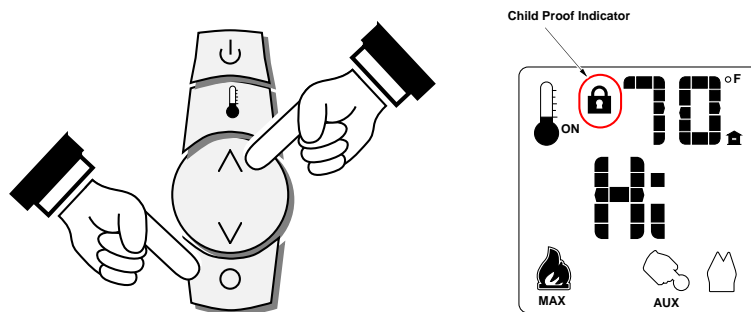

Figure 14
- Press both the MODE and UP buttons simultaneously to turn this feature on and off (see **Figure 14** below).